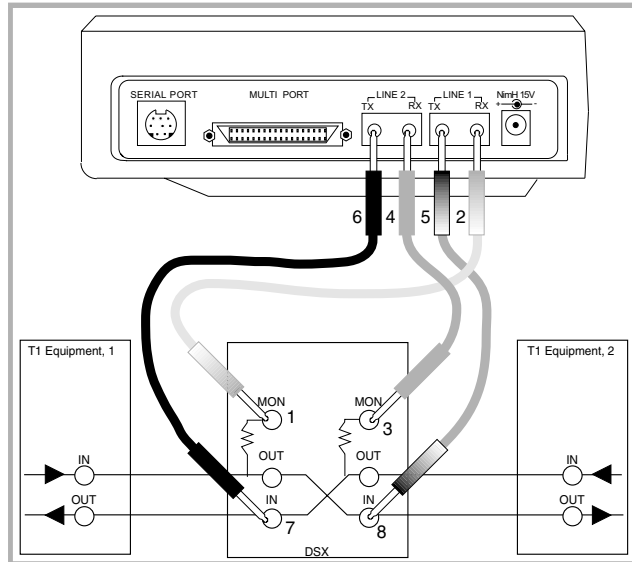

Figure 187 In Service Full Duplex THRU Drop and Insert
- make sure all the connections are made in accordance with the numbering procedure in Figure 187.
If you selected CHANNEL 1 and set the LISTEN SIDE to L1-Rx, you should hear a voice conversation only on CHANNEL 1 from EQUIPMENT 1. EQUIPMENT 2 should also be able to hear only your voice on CHANNEL 1 since you are transmitting out to LINE 1 on that specific channel (see Figure 187).